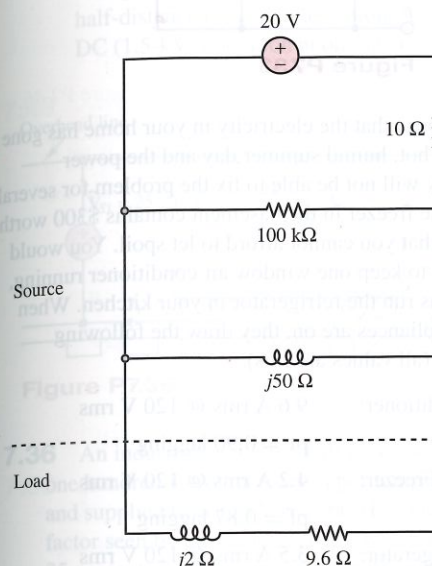

Figure P7.22
7.22 For the circuit shown in Figure P7.22, find: